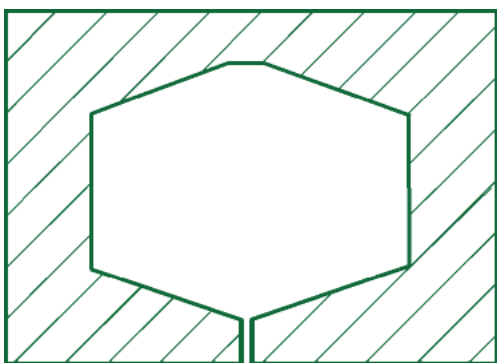
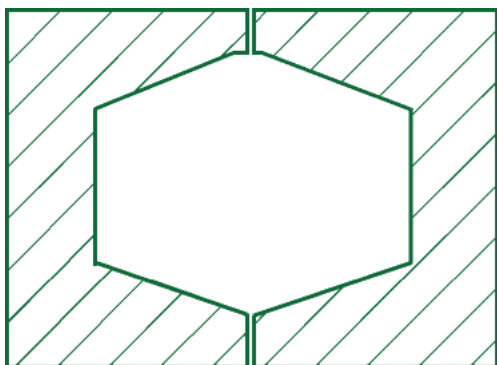

Fig. 3: Safe aperture definition with a single continuous line
Fig. 4: Recommended aperture definition using two separate blocks
**Whenever this solid line is present, the data entered and plan results should be verified to determine that the results are valid and as expected.** Please note that some properly entered blocks, including those that extend over three sides of the field (Fig 3), will also display this solid line.
To assure that data entry defining an aperture shape is correct, one should use two blocks (Fig 4). Note that outlines of different blocks may overlap; however, if only one block is used, it is essential to verify that the block outline does not cross itself (Fig 3).